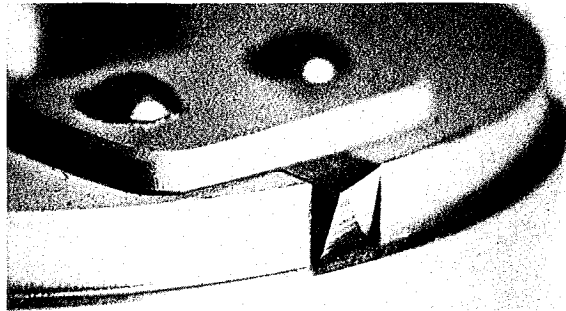

FIG 1 Cutter properly installed
2. Place cutter in Cutter Plate Assembly positioning the lower edge of cutter angle slightly below the pilot diameter. Tighten button head screws to secure cutter in position (Fig 1).